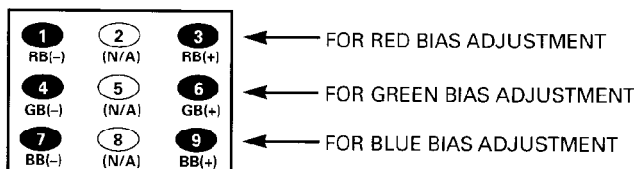

Figure 4. Remote Control Number keys' function in Service Menu NO. 48
10. Raise each Bias Level with 3, 6, and 9 keys to obtain just visible white line. (See Figure 4 below.)